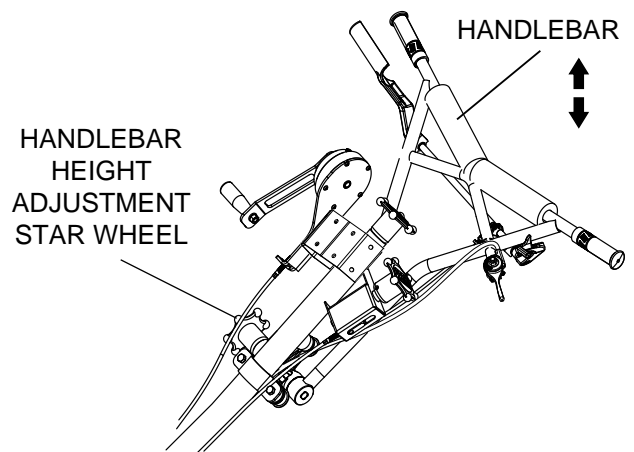

Figure 7. Handlebar Adjustment
3. If readjustment is necessary, loosen the star wheel as shown in Figure 7 and move the handlebar to the desired position.